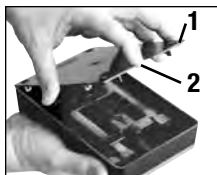
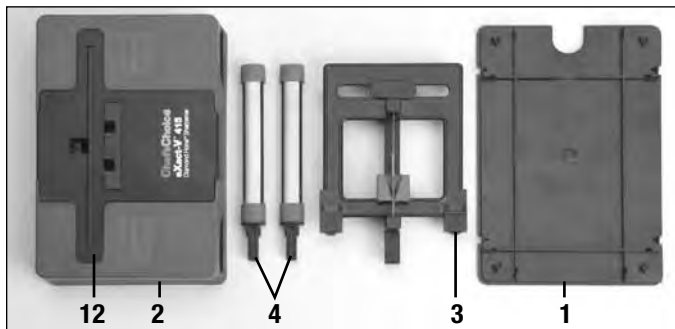

Figure 2.
Figure 3.
The sharpening components of the eXact-V® are conveniently stored within the supporting base which acts as their carrying case (Figure 2) which is sized to fit easily into a drawer, in your glove compartment, camping gear, or with your fishing tackle. The bottom cover (Figure 2) of the supporting base is easily removed by inserting a finger under the opening (2) at the end of the bottom cover (1) and removing it as shown. Then the knife guiding assembly (3) can be removed from the carrying case by pulling it upward carefully until it is released from its retaining clips. Then the two sharpening rods (4) can be removed similarly by pulling upward by their small ends (socket ends) until they release from their retaining clips. Figure 3 shows the supporting base (2), the two sharpening rods (4), the knife guiding mechanism (3), and the bottom cover (1) after removal of these components.
The spring assembly will then be on the same side of the post adjacent to the two abrasive rods. As the post is inserted the wheels along the bottom of the sliding guide frame (3) must be aligned with and be inserted into the “grooved track” (12) across the top of the supporting base (Fig.3). Check to make certain that after assembly the sliding frame moves freely left or right and returns to center by pressing a finger against either vertical guide surface.